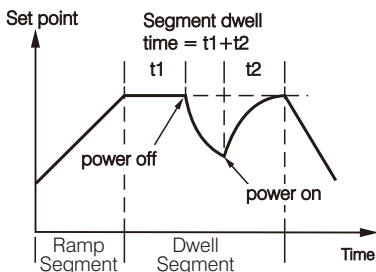
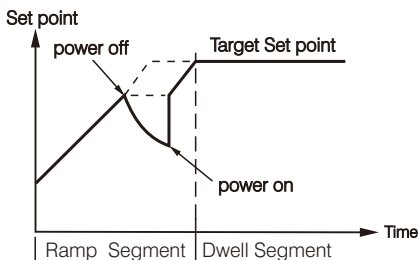

Figure 4.3 Recovery from profile at dwell segment
Figure 4.4 Recovery from profile at ramp segment
If power is lost and then restored, while a profile is running, the behavior of the profile is determined by the setting of the parameter " PFR " power fail recovery in profile configuration. This can have one of 4 settings - *cont* , *PU* , *SP I* and *OFF* . If *cont* is selected, then when power is restored the profile continues from where it was interrupted when power was lost. The parameters such as set point value (SV), time remaining (TIME) and cycle remaining (CYCL) will be restored to their power-down values. For application that need to bring the process value to the set point value as soon as possible, this is the best choice. The two diagrams below illustrate the respective responses, Fig. 4.3 if power fails during a dwell segment and Fig. 4.4 if it fails during a ramp segment.